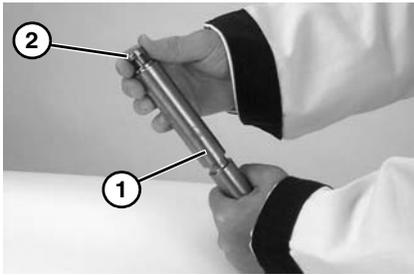

Figure 59
2. Inspect spindle (Figure 59, item 1). Replace if worn.
3. Slide bearing (Figure 59, item 2) onto spindle.